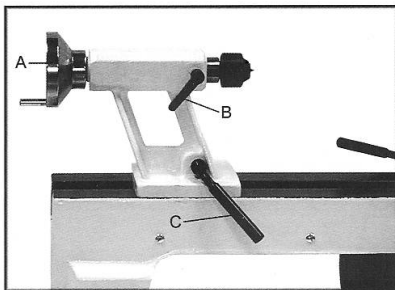

Fig 11
Turn the hand wheel (A, Fig 11) clockwise to move tailstock spindle forward. Lock spindle with the indexable knob (B).
The handle (C, Fig 11) locks the tailstock in position on the bed.